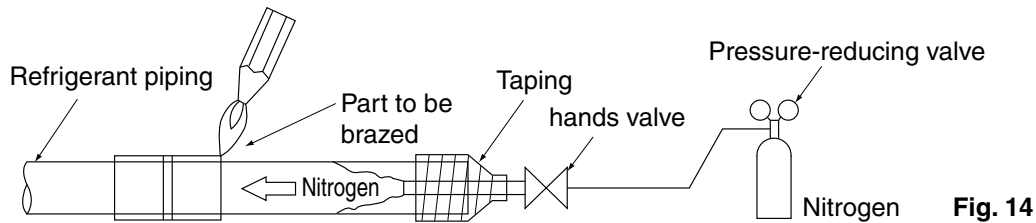

Fig. 14
2. Nitrogen should be set to 2.9 psi with a pressure-reducing valve if brazing while inserting nitrogen into the piping. (**Refer to Fig. 14**)